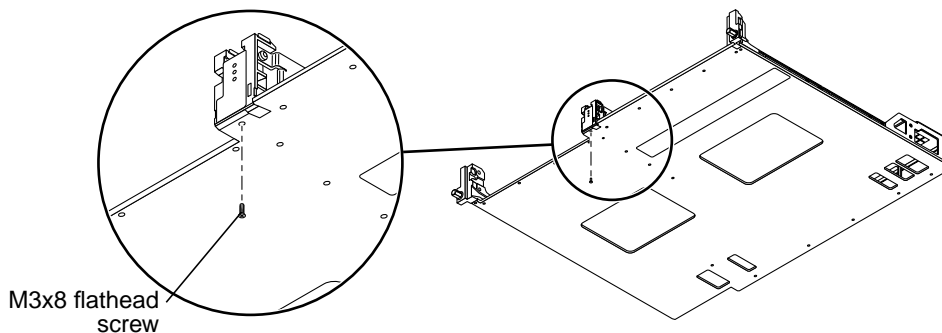

FIGURE 2 Securing the Center Guide Bracket After the T Rail Guide Removal
4. Install one (1) M3x8 flathead screw from the FRU package to secure the center guide bracket to the new carrier plate. See Figure 2. Discard the remaining eight screws.